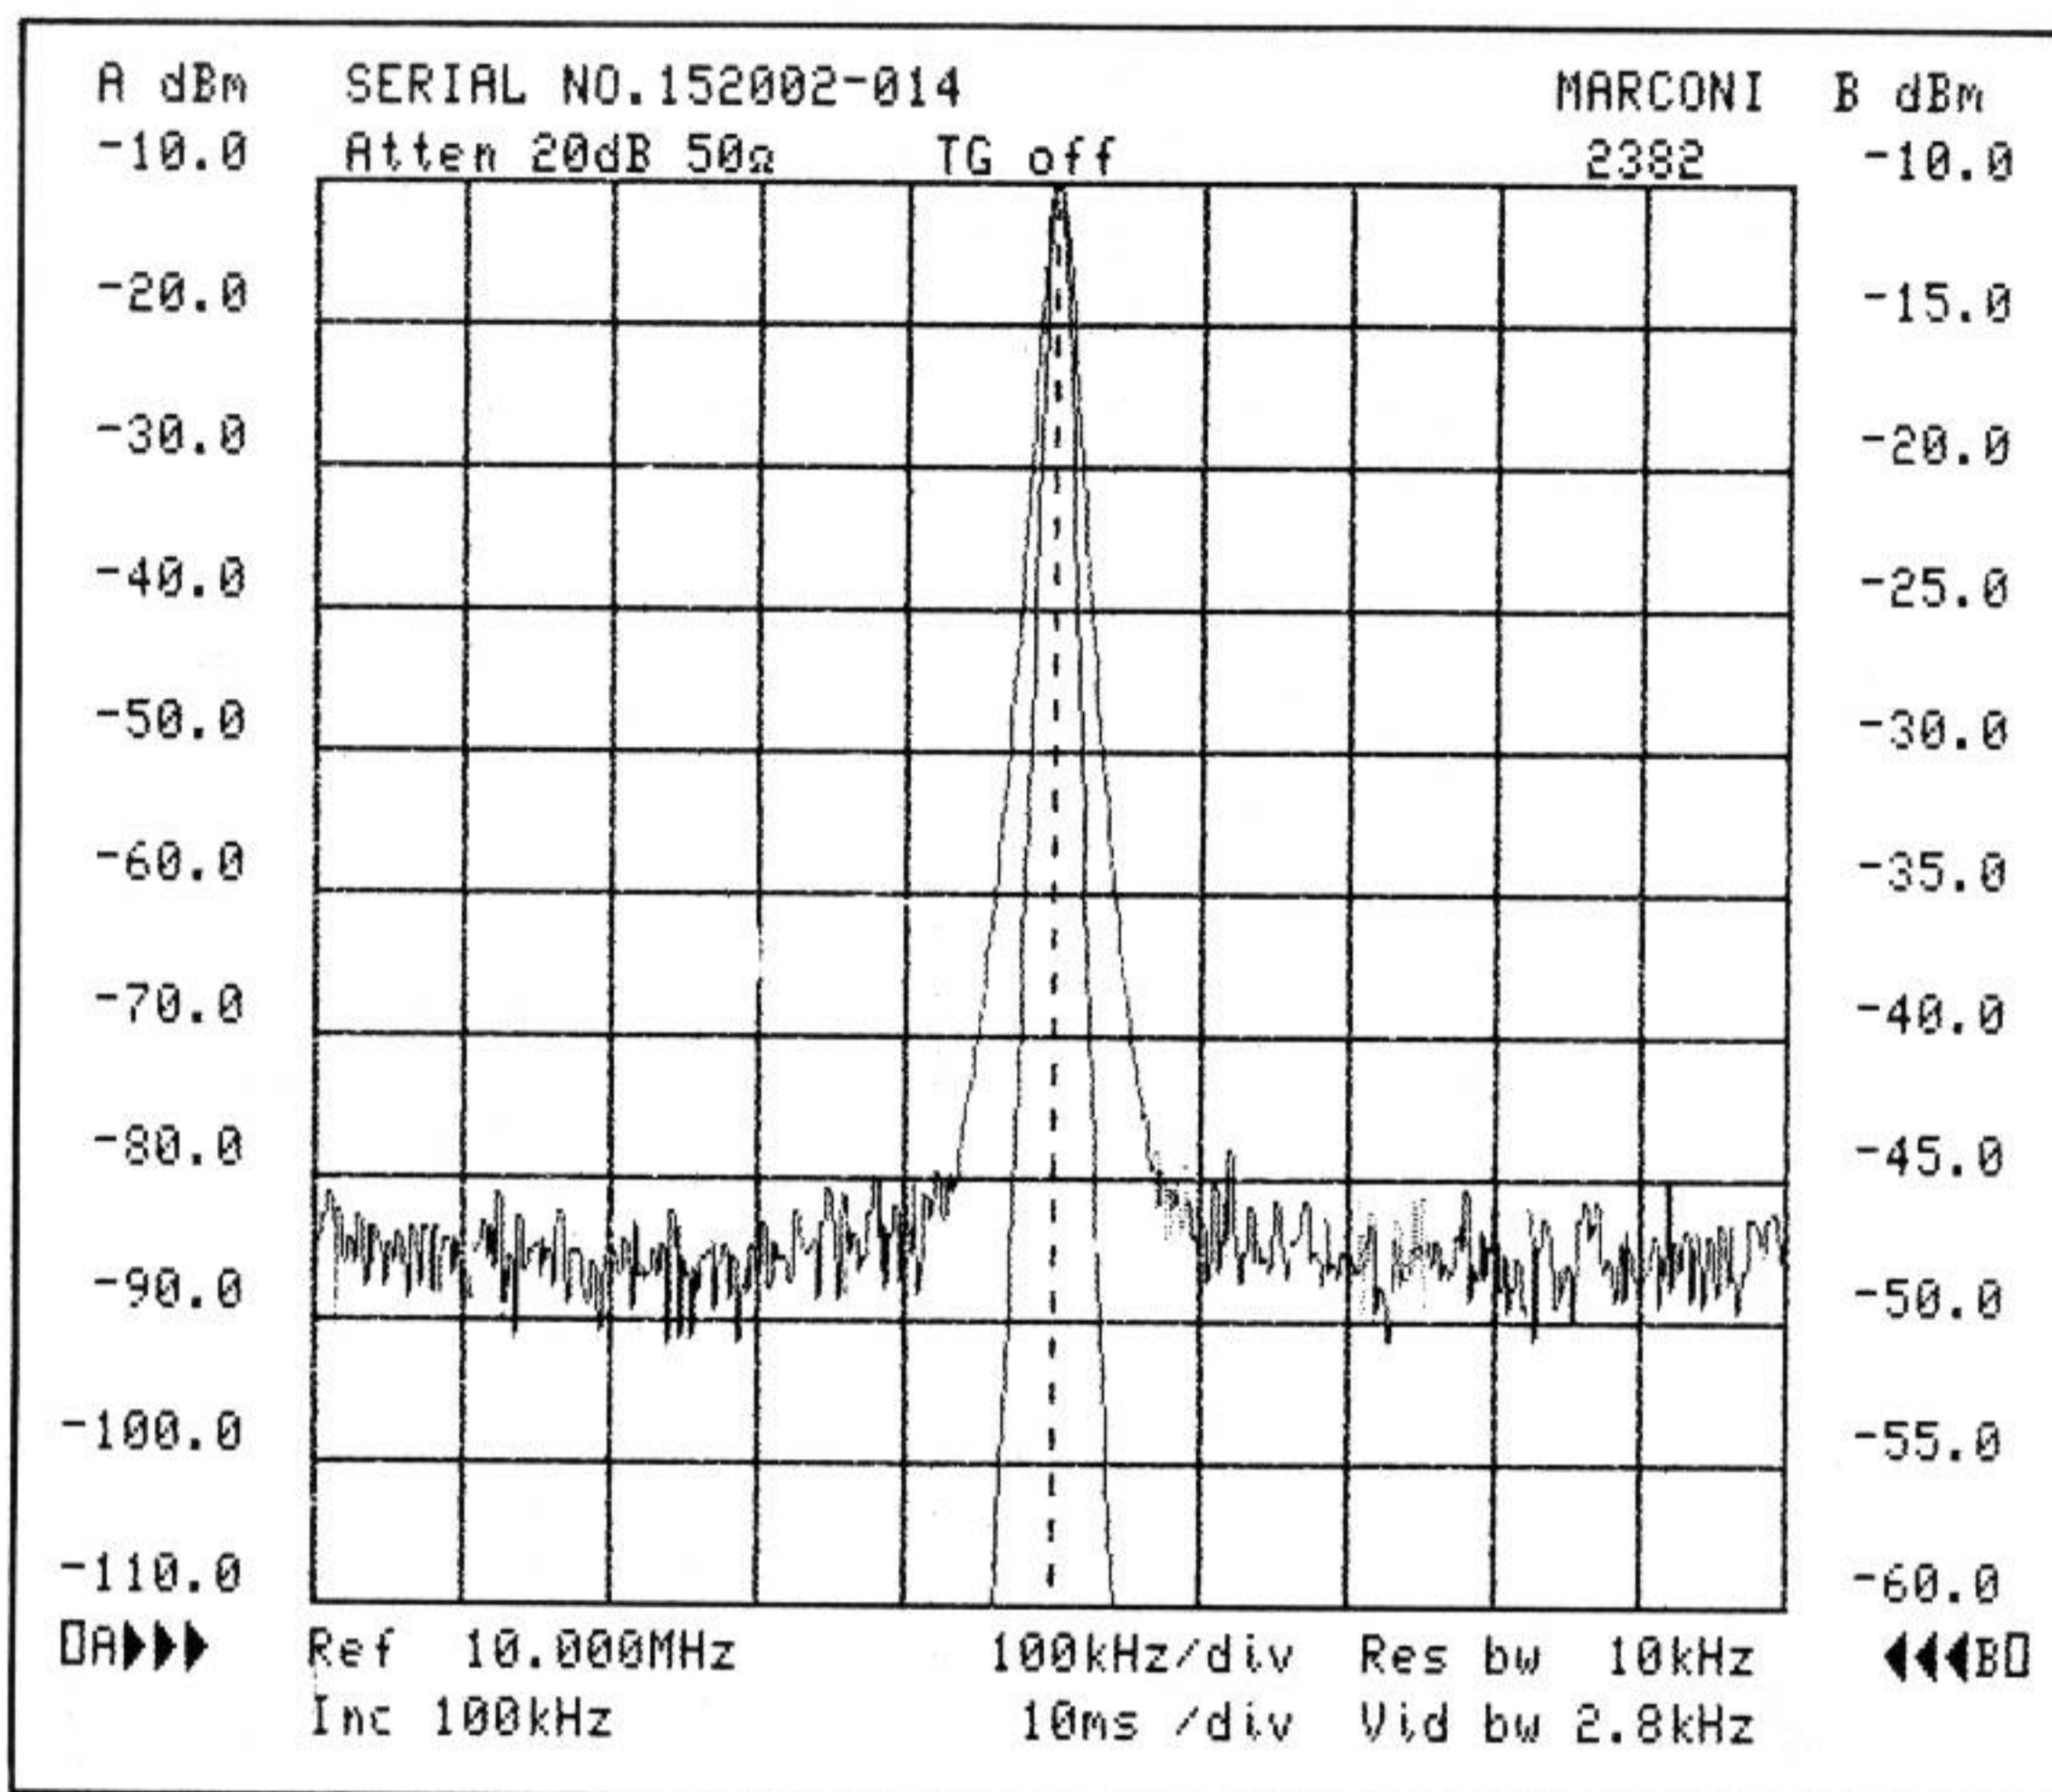

Fig. 10 Two signal display - different resolutions
51. The same signal can now be shown at a different resolution using the DISPLAY B channel. Press VIEW A to de-select the A channel, set the vertical scale A B SELECT to the 'B' position and press VIEW B. Adjust the INTENSITY B control to give a satisfactory picture maintaining the key and control positions as for VIEW A. Press the VERTICAL SCALE 5 dB/div. key to display the peak of the 10 MHz signal only. Now press VIEW A so that both channels are displayed on the screen and can be compared (refer Fig. 10). Setting the A B SELECT control to either A or B allows the vertical scale for that view to be changed. Operating the REF LEVEL controls at this point however, changes the reference level on both displays. If independent control is required, operating 2ND FUNCT then A B SELECT [24] will unlock the reference levels allowing each to be adjusted separately. Under these circumstances the relevant key light flashes, indicating the 'unlocked' condition. Repeating this operation restores the 'locked' condition and the relevant key light ceases to flash. As the horizontal marginal annotations are common to both 'live' displays, both the arrowed annotations $A \ggg$ and $\lll B$ appear and if horizontal controls such as reference frequency, filter bandwidth or sweep time are adjusted both displays are affected.